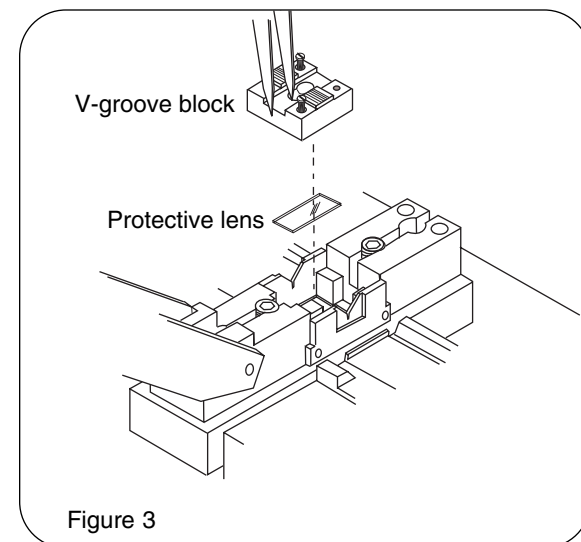

Figure 3
6. Using tweezers, gently lift the V-groove block out of the splicer. *Be careful not to loose the two flat head screws* (Figure 3).
7. Take out the protective lens using tweezers. It may be necessary to use the 2.3 mm screwdriver to tilt it for easy removal (Figure 3).